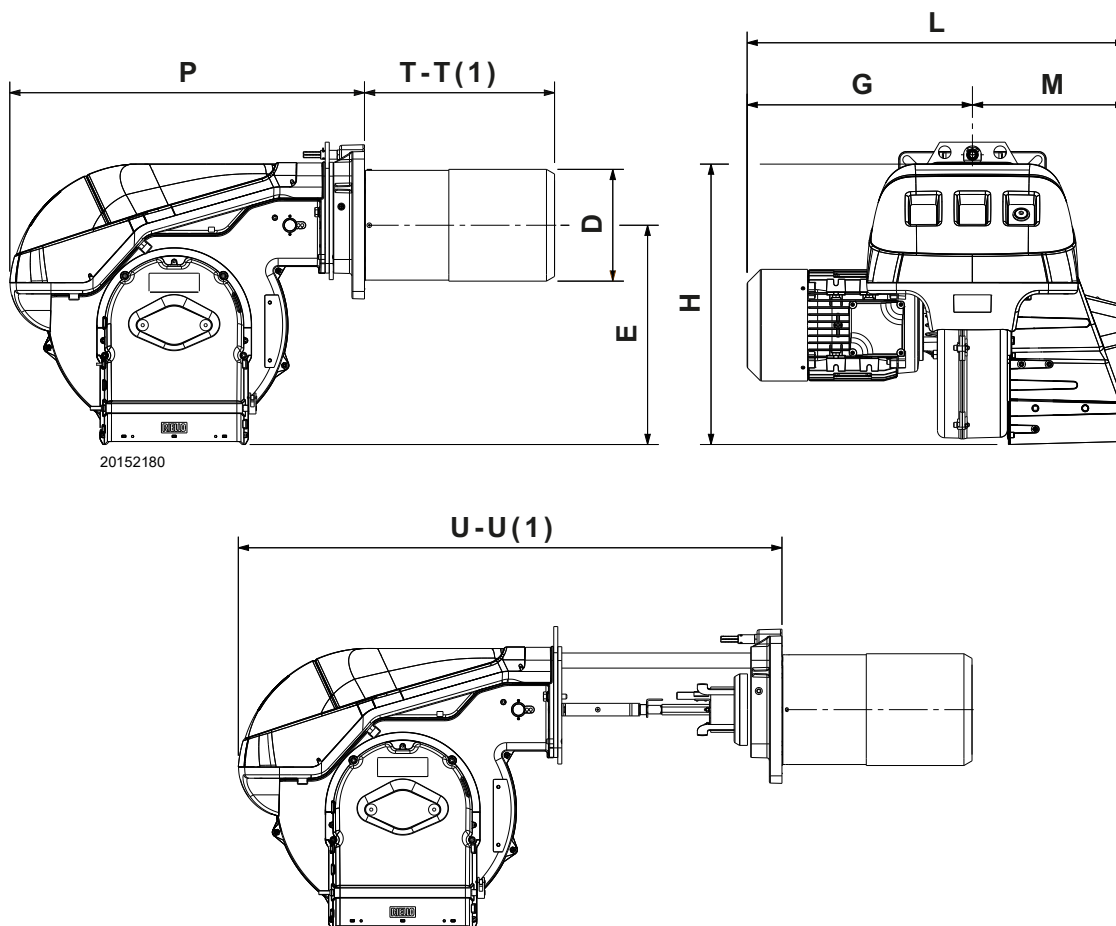

Fig. 2
4.3.1 Max. dimensions (Fig. 2) - approximate measurements
The maximum dimensions of the burner are given in (Fig. 2).